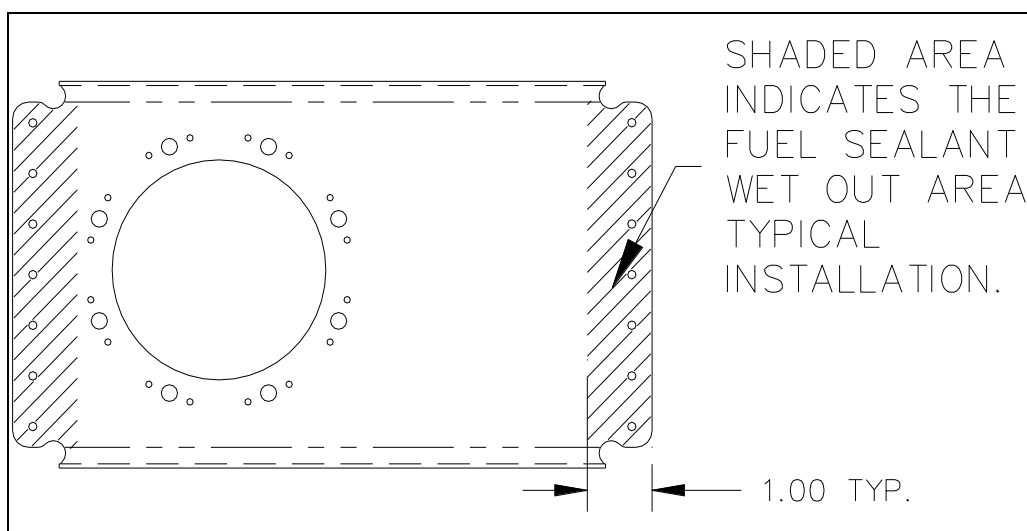
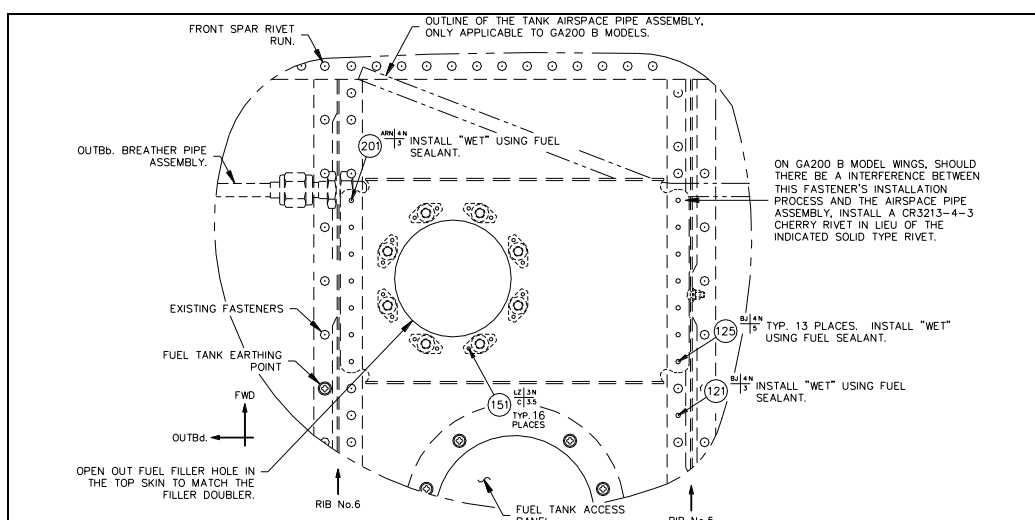

Figure 2: Sealant wet area – Port wing shown
Figure 3: Filler doubler installation – Port wing shown
8. Clean and remove existing sealant around the position of the new filler doubler ensuring the fuel tank remains 'fuel tight', and, from the inside of the fuel tank at the positions of the access panels. Refer to Figure 3 and service manual chapter 28.
9. Position new filler doubler, item 21 for port wing or item 22 for starboard wing, for best fit with existing fastener locations and drill off. To ensure a close fit, the top outboard and inboard edge of the plate may require radiusing. If necessary, it is permissible to vary the overall length of the doubler plate, remove minimum amount of material while maintaining two diameter minimum edge distances from centre of fastener holes.
10. Drill one extra fastener hole on Rib No. 5 outboard flange between the existing rivet positions, aft of the doubler plate. Refer to Figure 3.
11. Modify top skin fuel filler hole to match the doubler's hole diameter and back drill anchor nut holes into top skin. Refer to balloon 121 in Figure 3.
15. Install filler doubler with fuel sealant, item 213, between the rib flanges and the top face of the filler doubler. Refer to Figure 2 for wet out area of fuel sealant. Install fasteners, items 125 and 201 wet using fuel sealant between fastener heads and fuel tank skin. Install extra fastener, item 121, using sealant, item 211, on Rib No. 5 outboard fastener run. Fillet seal the tail of all installed rivets within the fuel tank using either fuel sealant, items 211 or 213. Refer to Figure 3.
On the GA200 B model wings, should there be interference between the inboard forward rivet installation process and the airspace pipe assembly, install a cherry rivet, item 201 in lieu of the indicated solid type rivet. Refer to Figure 3